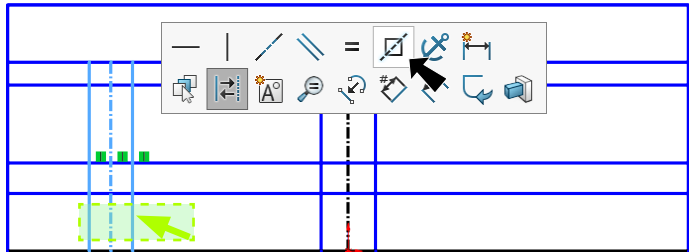

Fig. 7
Step 13. **Drag a selection to left across a pair of vertical lines**. Click **Make Symmetric**  on the context toolbar, **Fig. 7**.